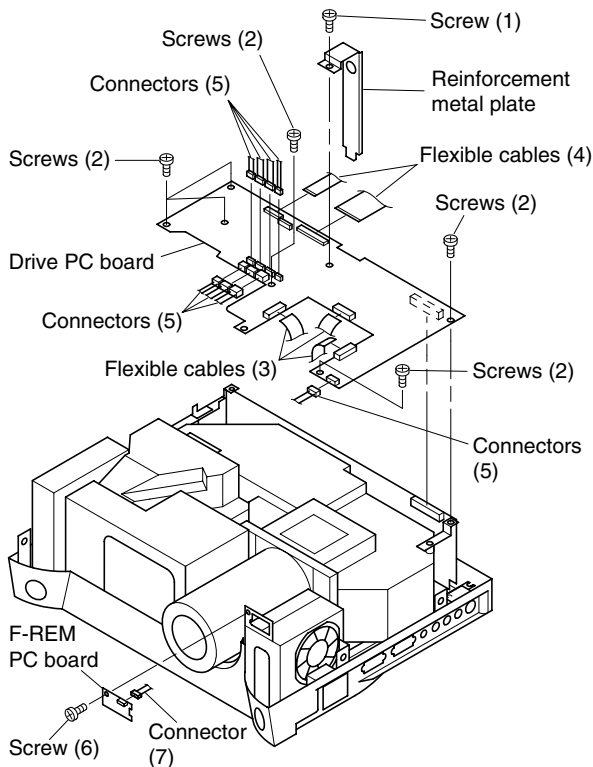

Fig. 3-1-3
1. Remove drive PC board. (Refer to Fig. 3-1-3.)
2. Remove 1 connector (1).
1. Remove drive PC Board. (Refer to Fig. 3-1-3.)